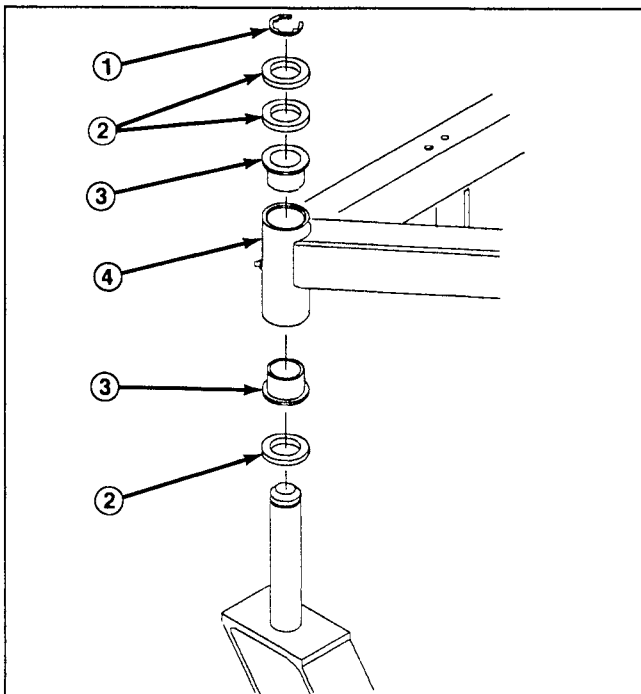

Figure 10
4. Insert pin punch into top or bottom of mounting tube and drive bushing out of tube (Fig. 10). Also drive other bushing out of tube. Clean inside of tubes to remove dirt.